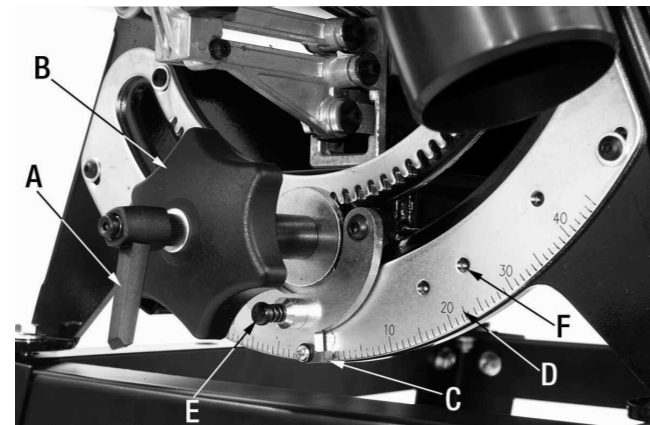
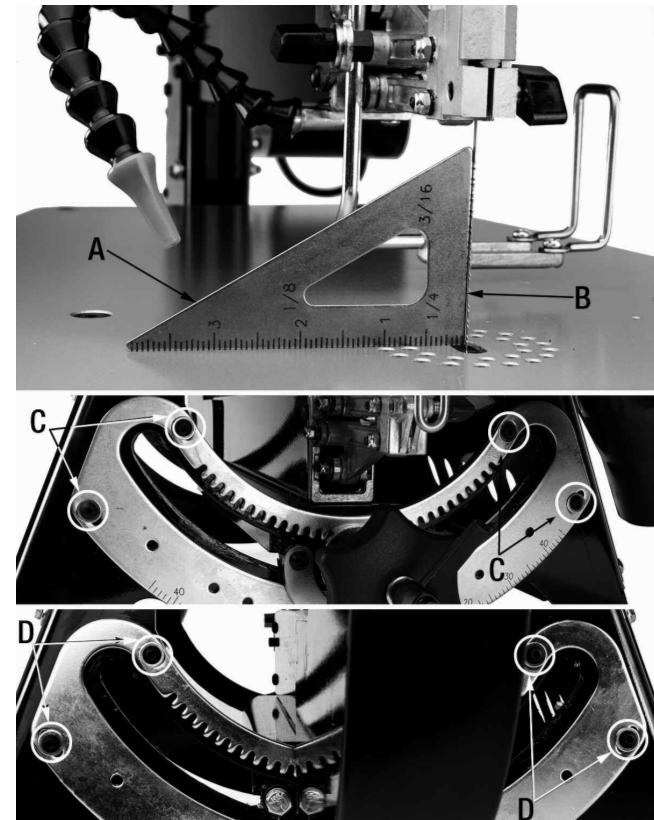

FIGURE 10
FIGURE 17
The head of the Scroll Saw can be tilted to the right or left to allow for angle or bevel cuts. The table remains flat and stationary so that cuts can be made easily and comfortably. The table tilt controls are located at the front of the Scroll saw, underneath the table, as shown in Fig.10.
- 1) Release the blade tilt lock handle (A) Fig.10 by turning it counterclockwise.
- 2) Turn the large knob (B) clockwise or counter-clockwise until the blade is set at the desired cutting angle.
- 3) Use the angle pointer (C) Fig.10 and the degree markings (D) to assist in setting the desired angle.
- 4) Turn the blade tilt lock handle (A) clockwise to retighten and secure the Scroll Saw head.
**NOTE:** By pushing in and holding the spring loaded pin (E) Fig.10 as you set the head angle, the pin will engage the positive stops (F), these are common cutting angles (0°, 22.5°, 30° and 45°).
- 3) Place a machinists square (A) Fig.17 on the table, against the blade (B). Check the blade angle.
- 4) If the blade is not square with the table, loosen the four allen head round screws (C) securing the front trunnions and the four allen head round screws (D) securing rear trunnions at the back of the Scroll Saw.
- 7) Once the adjustment is done, it may be needed to reposition the tilt angle pointer (C) Fig.10 so it aligns with the 0° mark on the angle scale (D). Loosen angle pointer screw, adjust position and retighten screw.